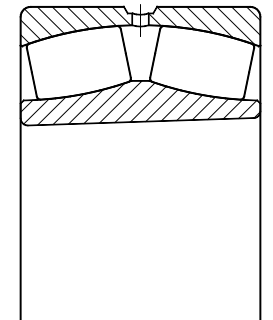

Fig. 2.11
**Spherical roller bearings** are less frequently used with **tapered bore** (fig. 2.11) mounted directly onto a tapered shaft.